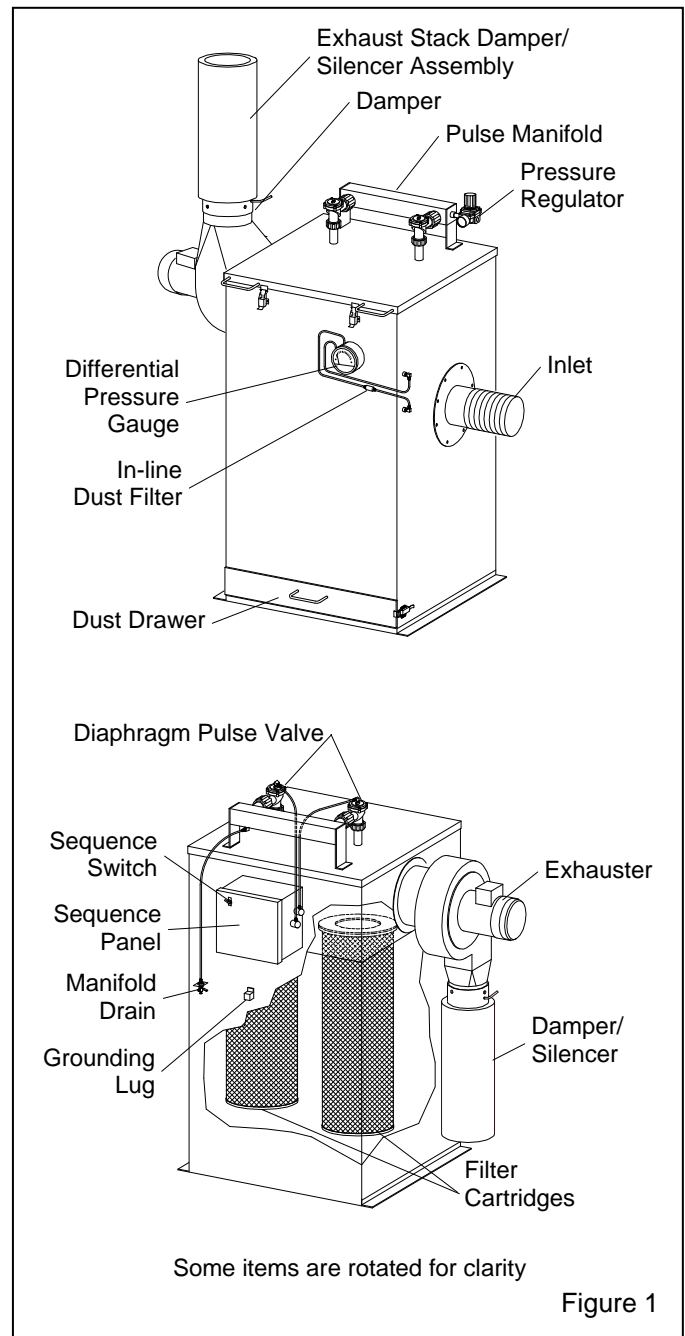
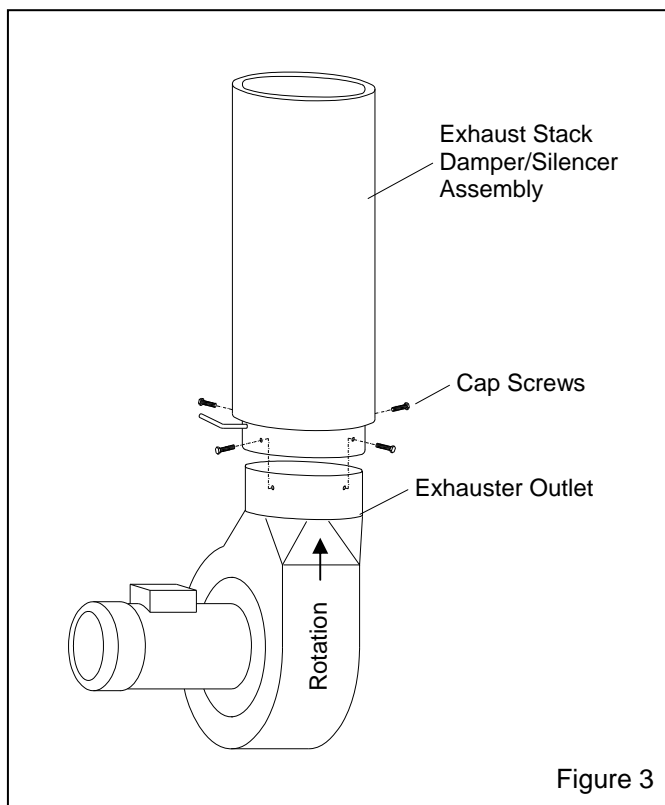

Figure 1
Figure 3
1.3.1 RPC-2 Dust Collectors are dry, reverse pulse jet cartridge collectors, used to ventilate abrasive blast cabinets and remove dust from exhausting air. Figure 1 show typical arrangements and call-outs used in the manual. Silencer may face up or down as shown.
2.2.2 Use the four cap screws provided, to attach the exhauster stack damper assembly to the exhauster outlet as, shown in Figure 3. NOTE: The silencer may face up or down as shown in Figure 1.
2.3.4 After the wiring is completed, observe the subsequent warning, and check the motor rotation. To check rotation, jog the starter (momentarily turn switch on and off). This will cause the motor to rotate slowly. Look through the slots in the fan housing on top of the motor where rotation of the fan can easily be observed. Proper rotation is indicated by the arrow on the exhauster housing. The fan should rotate toward the exhauster outlet as shown in Figure 3.
3.3.4 Drain the pulse manifold whenever the compressed air supply is turned off. The drain petcock is mounted on the side of the collector. See Figure 1.